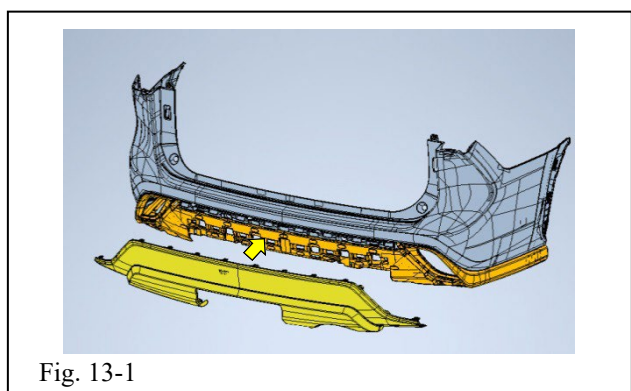

Fig. 13-1
- (a) **All grades except XSE:** Reverse order of Step 9-e and 9-d to reassemble a complete rear bumper. (Fig. 13-1)